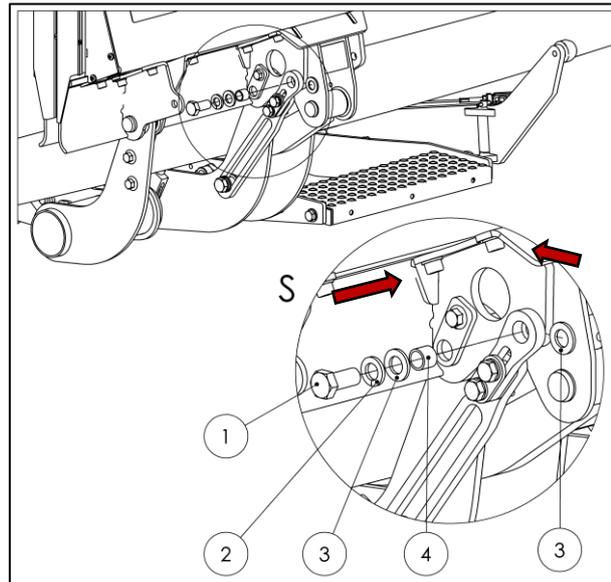

Fig. 65
- Mount the screw (1) for the platform lock, including the spring washer (2), washers (3), and sleeve (4), on the platform bearing (see Fig. 65).